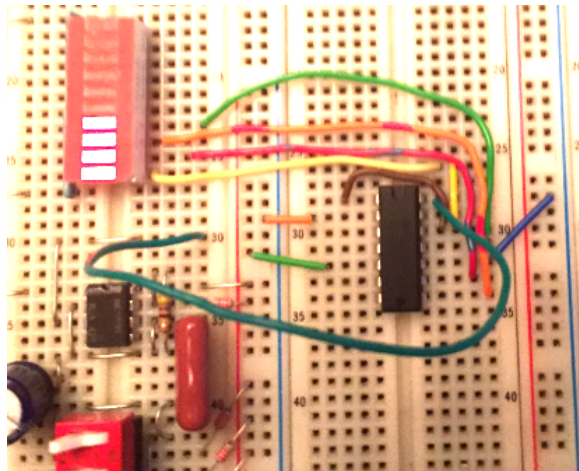

Figure 2.3. Counter circuit with clock input now connected to timer (row 30 on the breadboard).
Now connect the timer output to the counter's clock input at pin 14 (as shown in Figure 2.3). Run the clock at its slowest rate so you can see the LEDs flash on and off. (For the slowest rate, the capacitor select switch--lower left--should be flipped opposite to the way it is shown.) Again, the LEDs should go through a full 16-count sequence: $0000 \rightarrow 0001 \rightarrow 0010 \rightarrow \dots \rightarrow 1110 \rightarrow 1111 \rightarrow 0000 \rightarrow \dots$ etc..
2.3* Once you are satisfied that the counter is running correctly, switch the timer into its high range (flip the capacitor select switch back to the way it appears in Figure 2.3). The counter outputs should now be changing too fast to see their bit patterns on the LEDs which, as a result, appear to be on all the time. Instead, you will observe counter outputs using an oscilloscope. (See “Controlling the Oscilloscope Display” at the end of this experiment for information on using the Agilent DS01012A oscilloscope.)